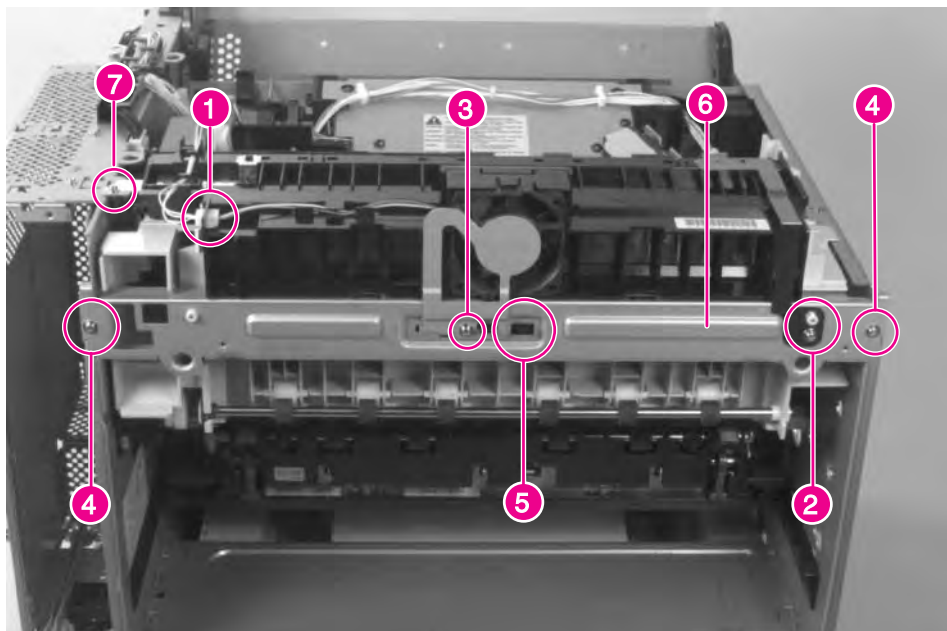

Figure 6-12 Delivery Unit (1 of 2)
- 2 Unplug and re-route the fan cable out of the way (figure 6-12, callout 1).
- 3 Remove 1 screw (figure 6-12, callout 2) to loosen the grounding strip.
- 4 Remove 1 screw (figure 6-12, callout 3), and remove the metal fan shield.
- 5 Open the Diverter Assembly access door, remove 2 screws (figure 6-12, callout 4), release the plastic retaining tabs (figure 6-12, callout 5), and remove the metal mounting bracket (figure 6-12, callout 6).
- 6 Remove 2 screws (figure 6-12, callout 5) and 1 screw (figure 6-12, callout 7)
- 3 Replace the metal mounting bracket (figure 6-12, callout 6) before replacing the Delivery Unit screws. Make sure that the plastic clips (figure 6-12, callout 5) are snapped into place before tightening the mounting screws (figure 6-12, callout 4).